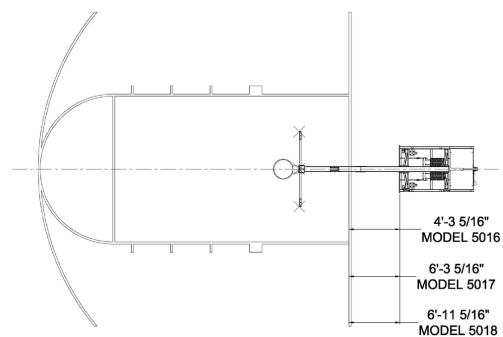

Figure 4
5. Push the unit to the playing location on the court. The unit should be centered on the centerline of the court as shown in figure 4.